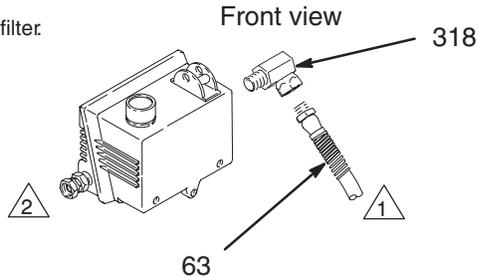

Fig. 20
2. Disconnect the hose (63) while holding elbow (318) firmly. See Fig. 20.